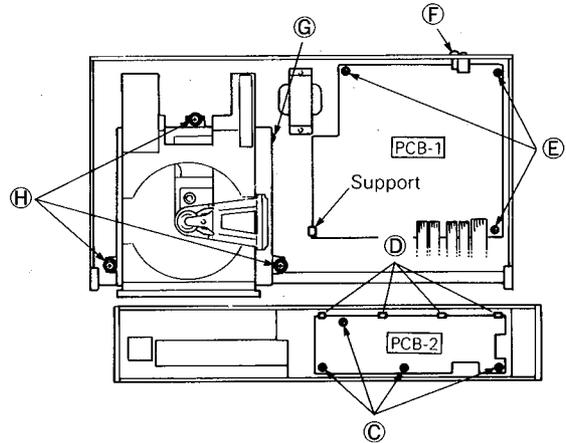

Fig. 3
- Remove 4 screws (C) and 4 catches (D), then remove the Control Switches P. C. Board (PCB-2). (Fig. 3) If necessary, unsolder the lead wires.
- Remove 3 screws (E), support and a screw (F) holding the Output jack. (Fig. 3) If necessary, unsolder the lead wires.
- Remove a screw (G), then remove the lug terminal with lead wire.
- Remove 3 screws (H), then remove the CD Player Mechanical Assembly.